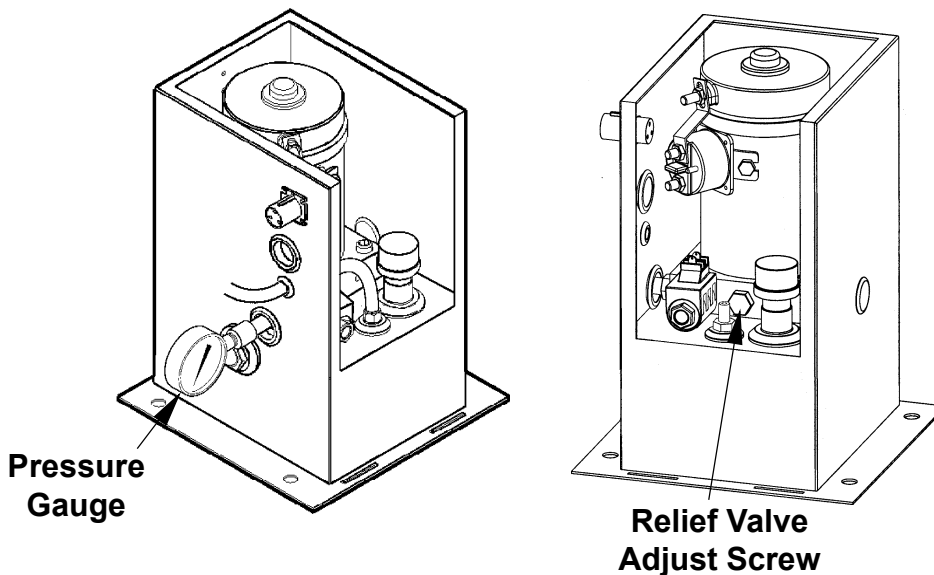

FIGURE 2
4. With Platform on the ground, remove the pressure hose and fitting from the Pump and replace it with a 0-3000 PSI Pressure Gauge. Hold the switch in the "UP" position. Adjust the Relief Valve on the side of the Pump until the gauge shows 2800 to 3000 PSI . **(See Fig. 2)**